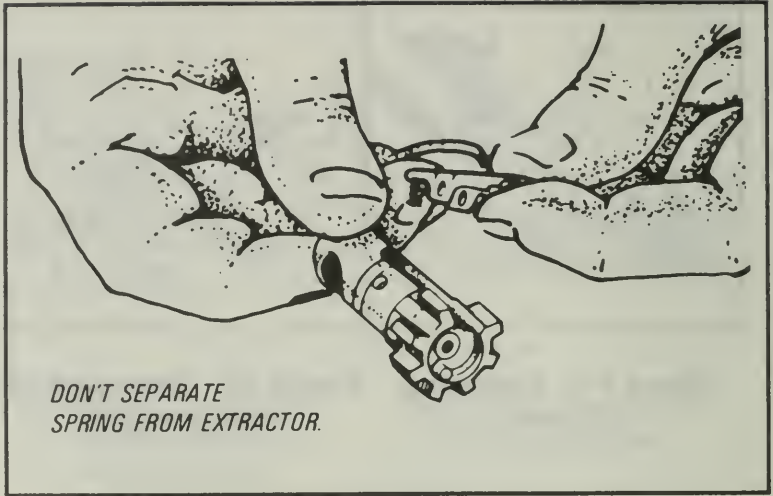

Figure 66. Removing the extractor and spring.
p. Lift out the extractor and spring (Figure 66).